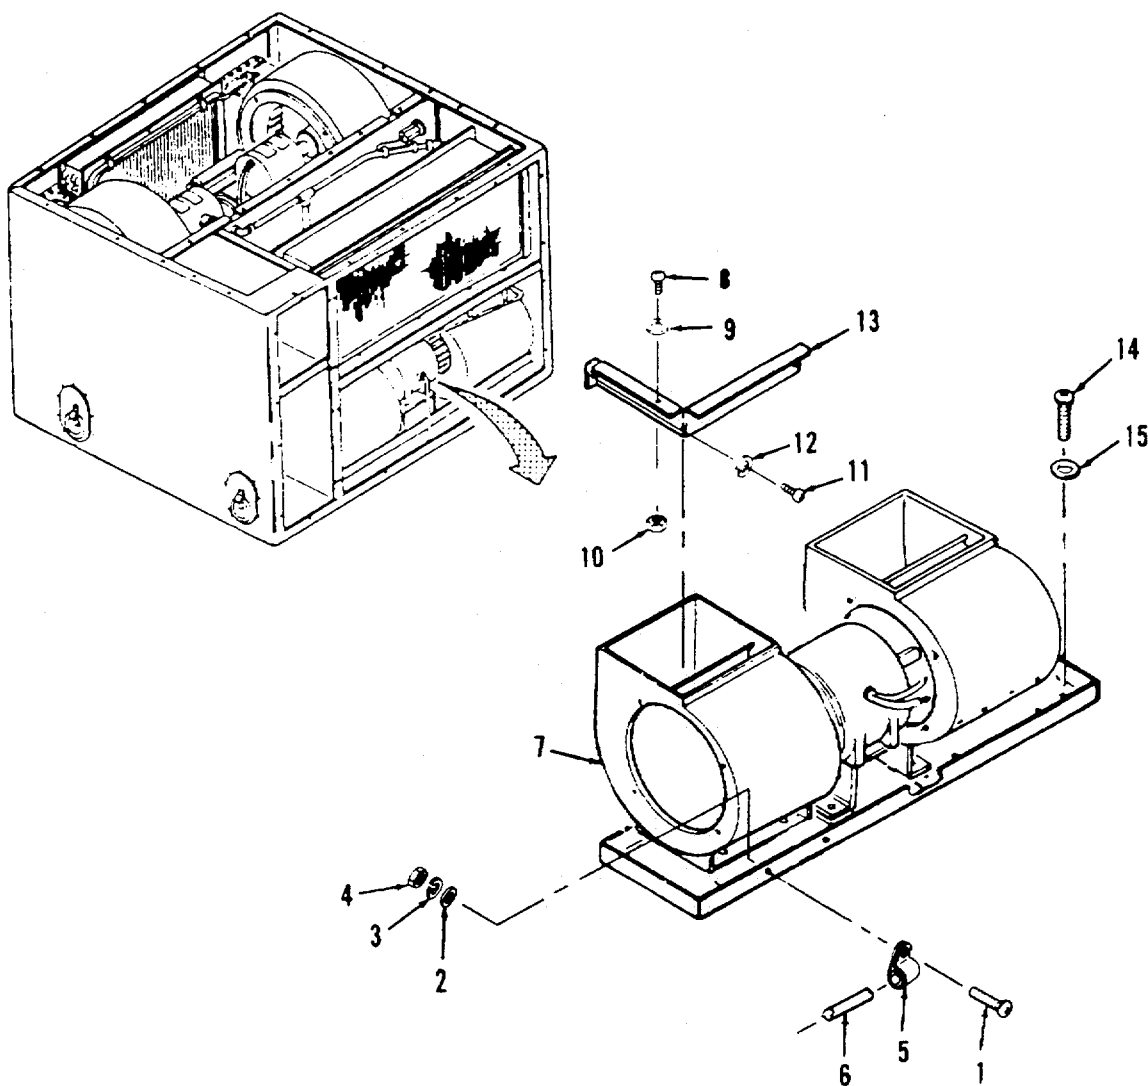

Figure 4-3. Evaporator Fan Assembly.
- a. **Removal.** (Refer to Figure 4-3).